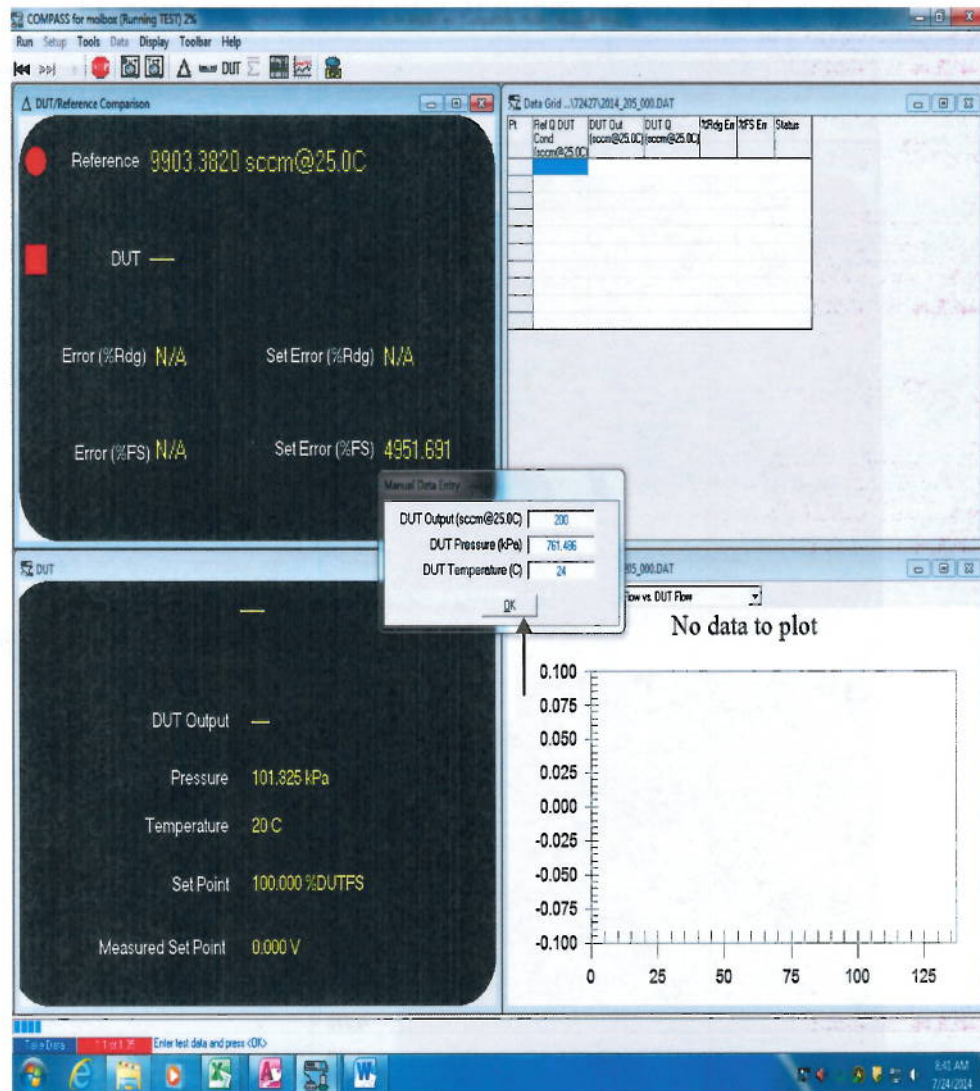

Figure 15
12.3.14 Click on the “OK” button. See Figure 15.